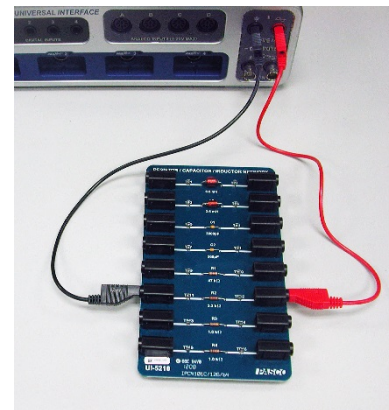

Figure 4: Ohm's Law Setup
1. Setup the circuit shown in Figure 4 using the 3.3 kΩ resistor.